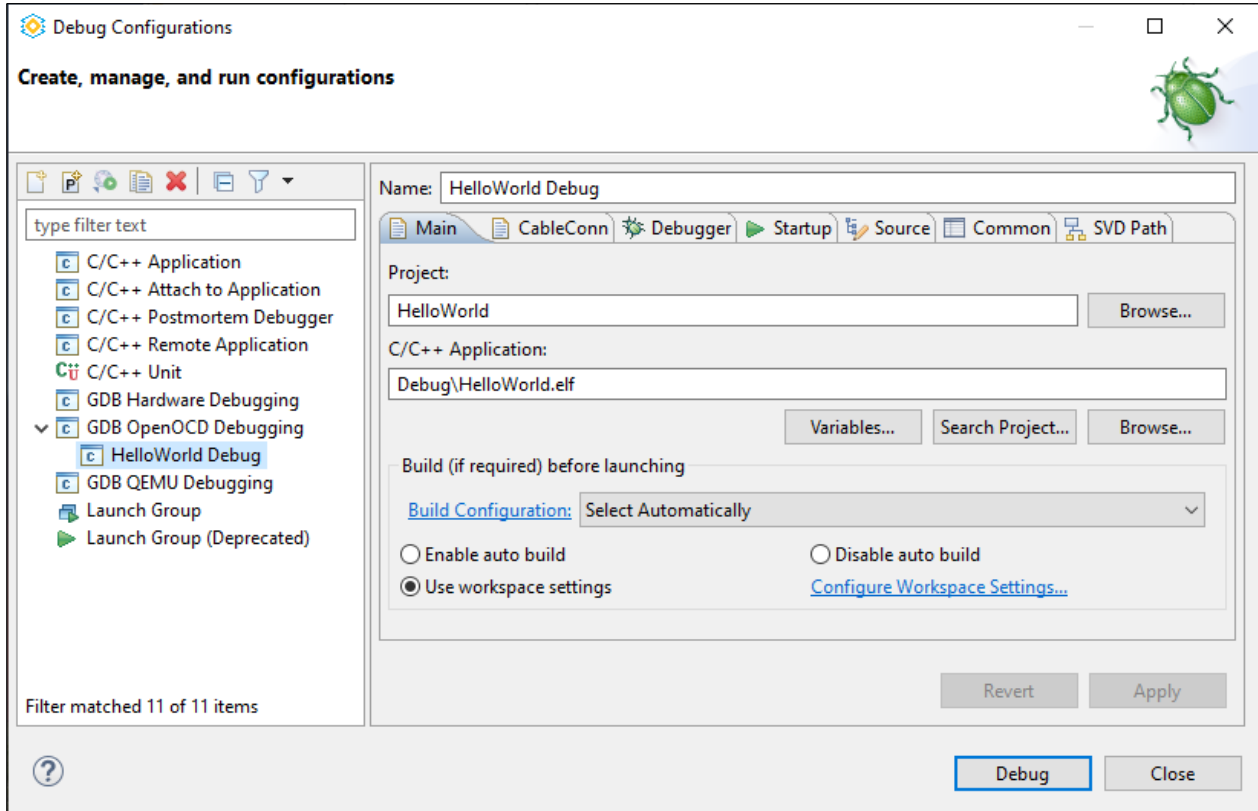

Figure 4.13. Debug Configurations Dialog 2
7. Double-click **GDB OpenOCD Debugging** to create a new launch configuration (Figure 4.13).